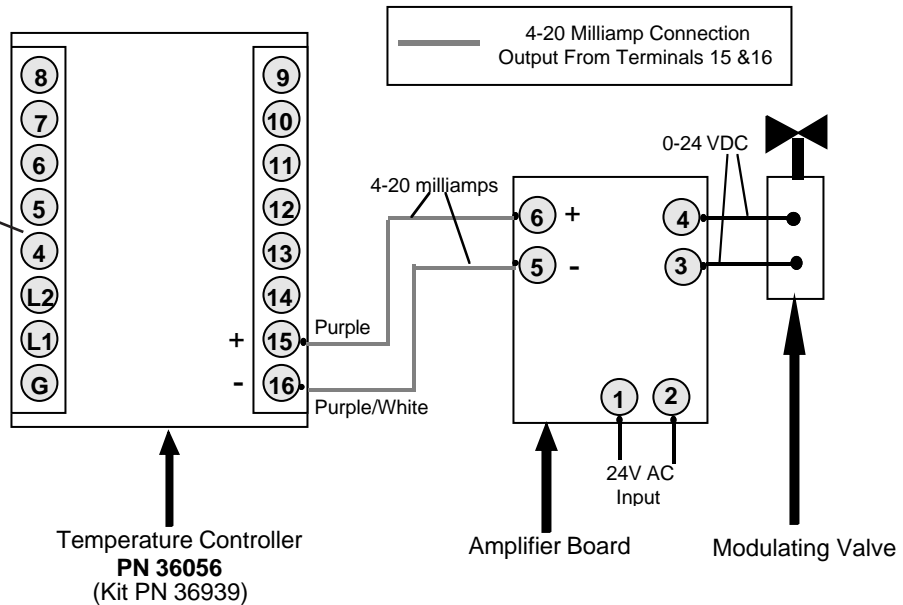

Figure 3 - Modulating Control Circuit
4. If you are replacing a Modulating Digital Temperature Controller, PN 32571, with the latest digital temperature control, PN 36056, be aware that the mA output terminals of the Temperature Controller, which feed the Amplifier Board, change from **4 & 5** to **15 & 16**. See Figure 3.